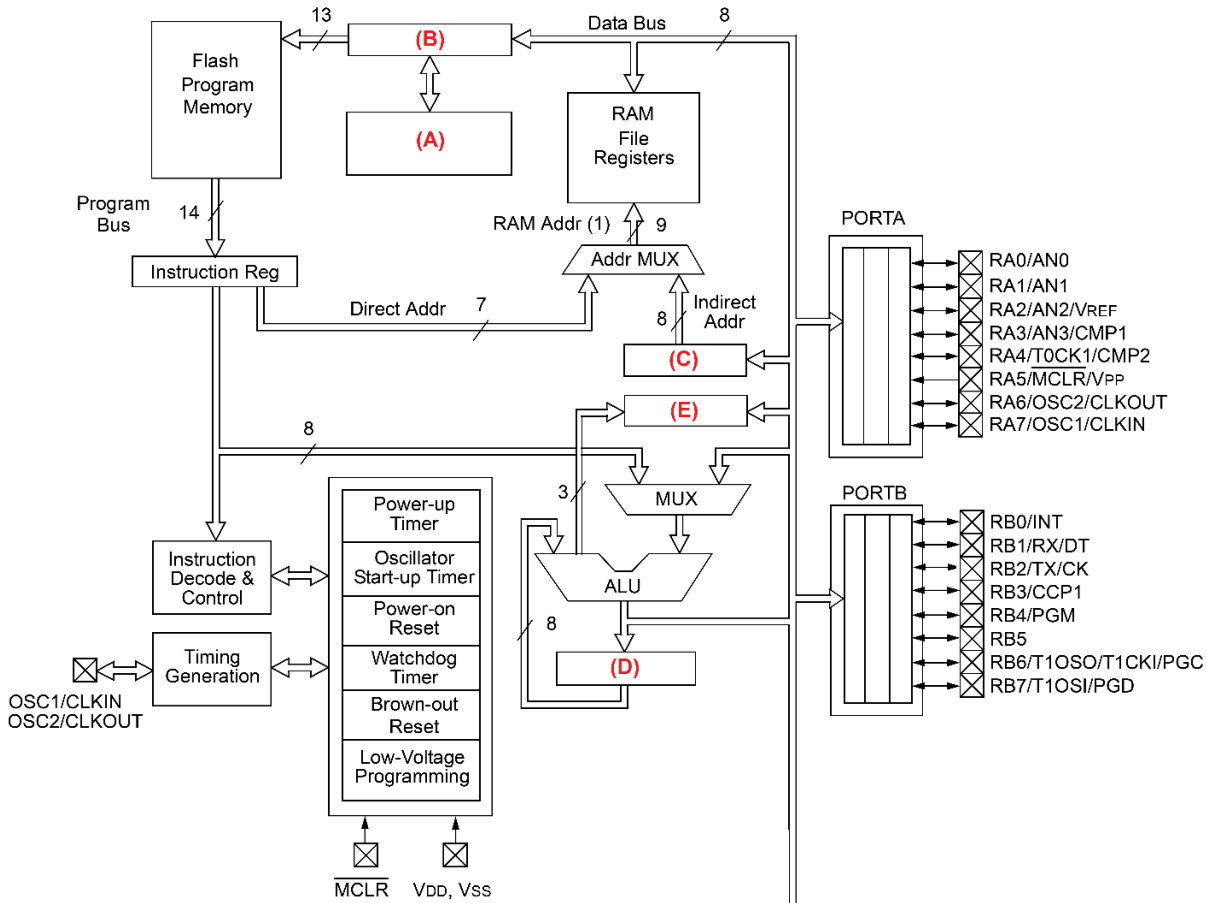

Figure 2(a) Internal architecture.
(b) Present in description THREE (3) types of memories available in the Peripheral Interface Controller (PIC) microcontroller and how each of them are being used by the programmer as shown in Figure 2(b-1) and Figure 2(b-2). The description should include the size in bytes or words and the range (Hexadecimal) of each memory. The description should be based on Figure 2(b-2).